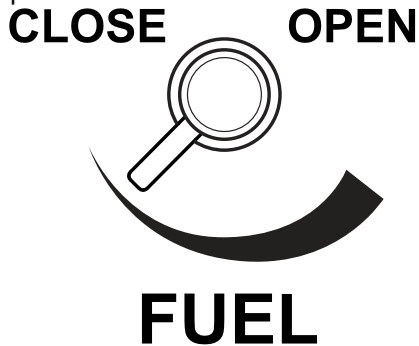

Figure 8. Engine Fuel Valve Lever (OPEN Position)
1. Place the engine fuel valve lever (See Figure 8) to the **OPEN** position.